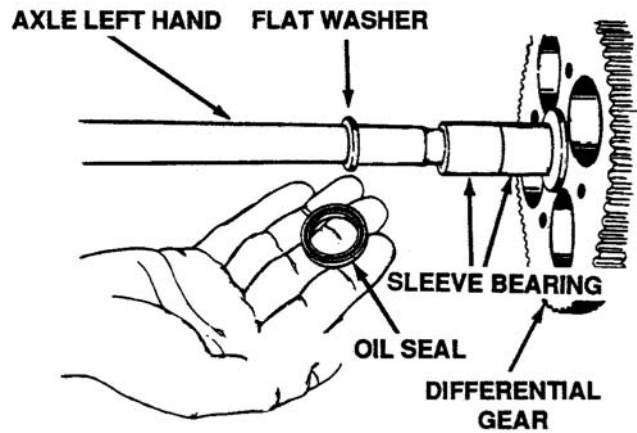

Figure 6-20. Removing Oil Seal
17. Remove oil seal, flat washer and two sleeve bearings from left hand axle. See Figure 6-20.